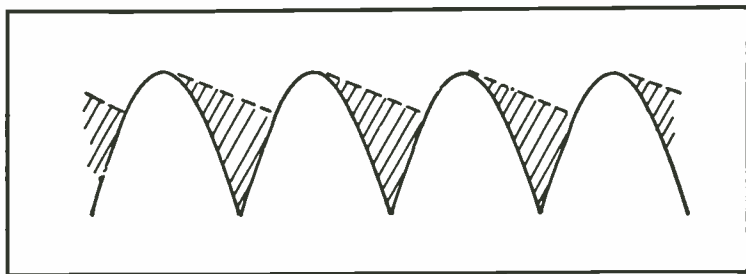

Fig. 10-27. The contribution of the rectifier current to the total load current drops to zero at the end of the half cycle.
**Capacitor “Brute Force” Filters.** The simplest form of filter is the “brute force” filter of Fig. 10-24. The filter consists of a capacitor in parallel with the load resistor (Fig. 10-25). When the pulsating DC waveform is increasing, the rectifier output current serves to charge capacitor C and supply the load current. The capacitor will charge to approximately  $E_p$  during this period. After the peak has passed, however, the capacitor voltage is greater than the rectifier output voltage. This means that the current stored in the capacitor will begin to flow in the load (Fig. 10-26). The total load current will be partially due to the rectifier current and partially due to the capacitor current. But the contribution of the rectifier current to the total load current becomes less and less, diminishing to zero at the conclusion of the half cycle. The process repeats itself as the next half cycle begins (Fig. 10-27).